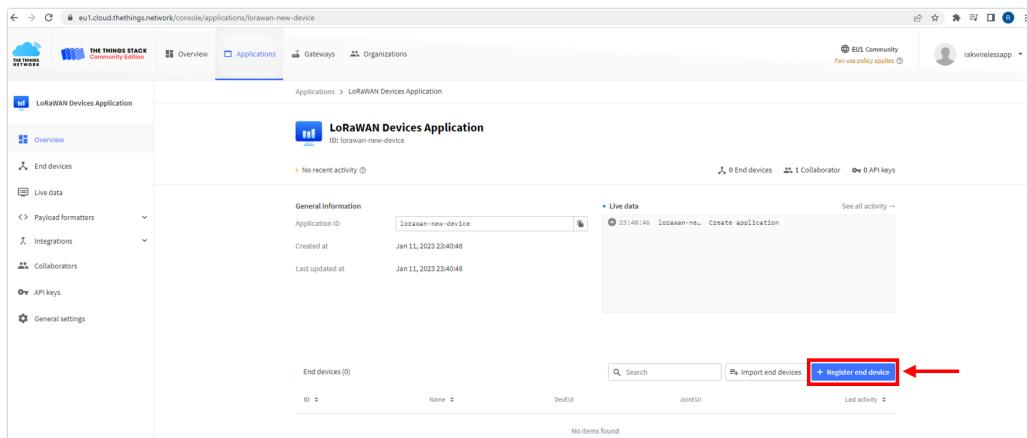

Figure 120: Adding ABP Device
1. To register an ABP device, go to your application console and select the application to which you want your device to be added. Then click **+ Register end device**, as shown in **Figure 120**.